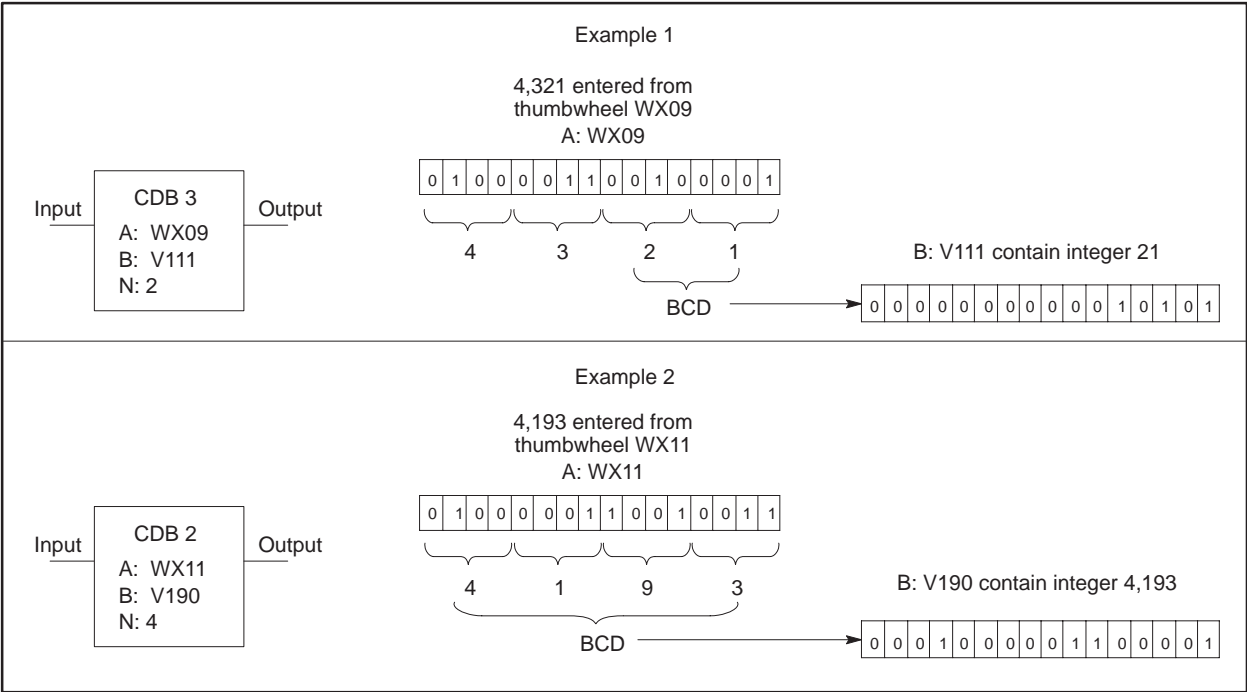

Figure 6-10 Examples of CDB Operation
**CDB Operation** When the input turns on the CDB box executes. If the input remains on, the instruction executes on every scan. The operation of the CDB follows and illustrated in Figure 6-10:
- The number of digits (N) of the BCD value located in A, is converted to its equivalent binary integer value and stored in B.